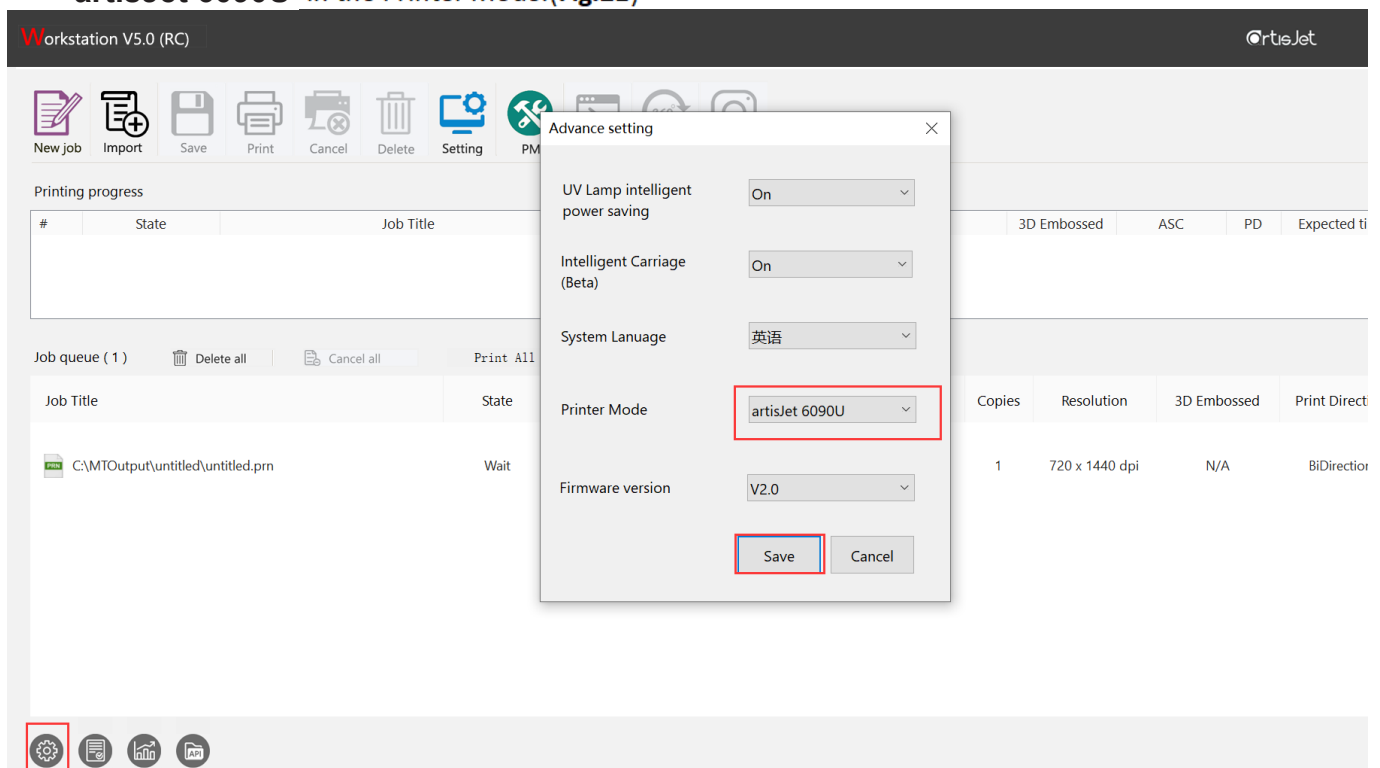

Fig.21- How to choose the printer mode
c. Choose the printer mode. Click the  button to choose the printer mode. Choose the **artisJet 6090U** in the Printer Mode.(Fig.21)